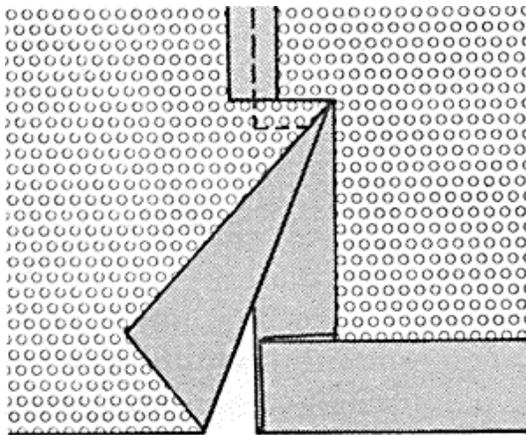

Figure 5.
1. Press the vent facing in its finished position, then press up the hem allowance (*Figure 5*).